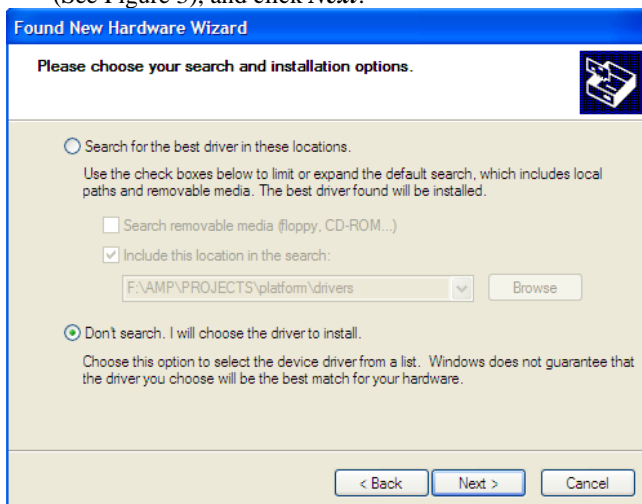

Figure 3. Search and Installation Options
4. Select **Don't search. I will choose the driver to install** (See Figure 3), and click **Next**.